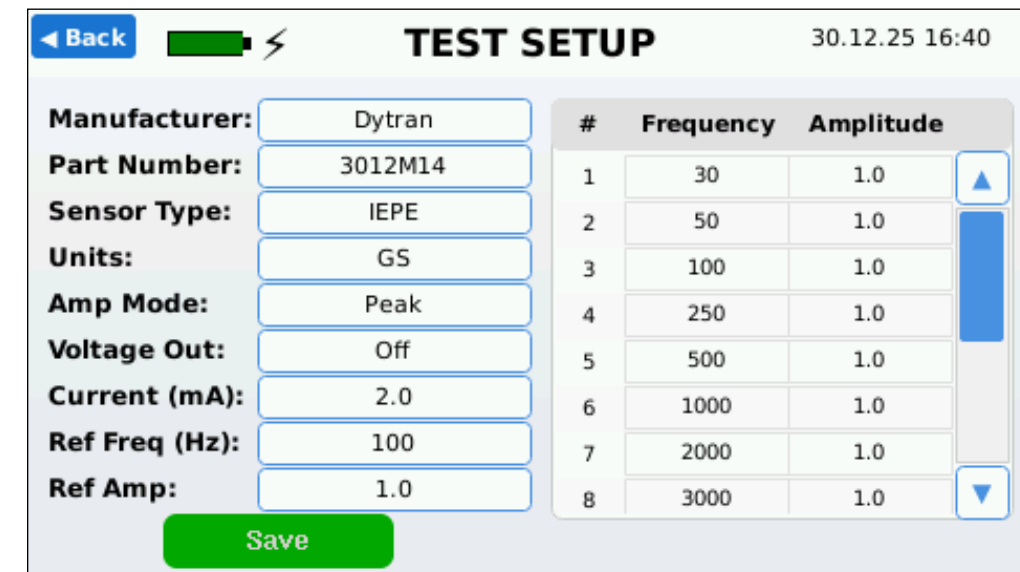

Figure 32
1. On the Settings screen, select **Test Setup** to open the Test Setup screen (*Figure 32*).